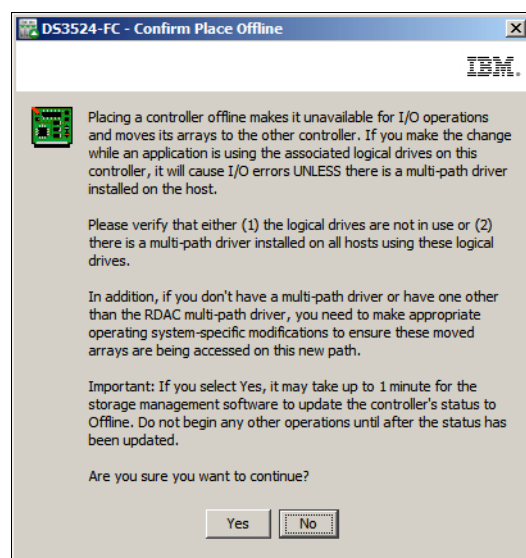

Figure 14-135 Confirm Place Offline
2. The window shown in Figure 14-135 will be displayed. Read the information and then click the **Yes** button to confirm that you want to place the controller offline.